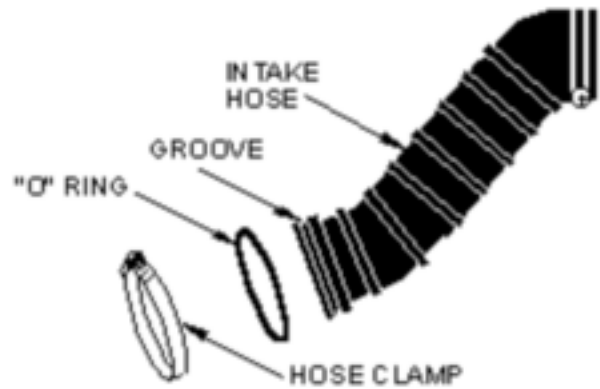

fig. 3
- 6) Install the rubber velocity adapter / tube assembly into the stock intake hose, work the hose over the large end of the tube (you will need to replace the stock spring clamp with the 'O ring and band clamp. Place 'O ring into the groove that held the stock spring clamp, and secure with the band clamp on top of it. (see fig. 3)